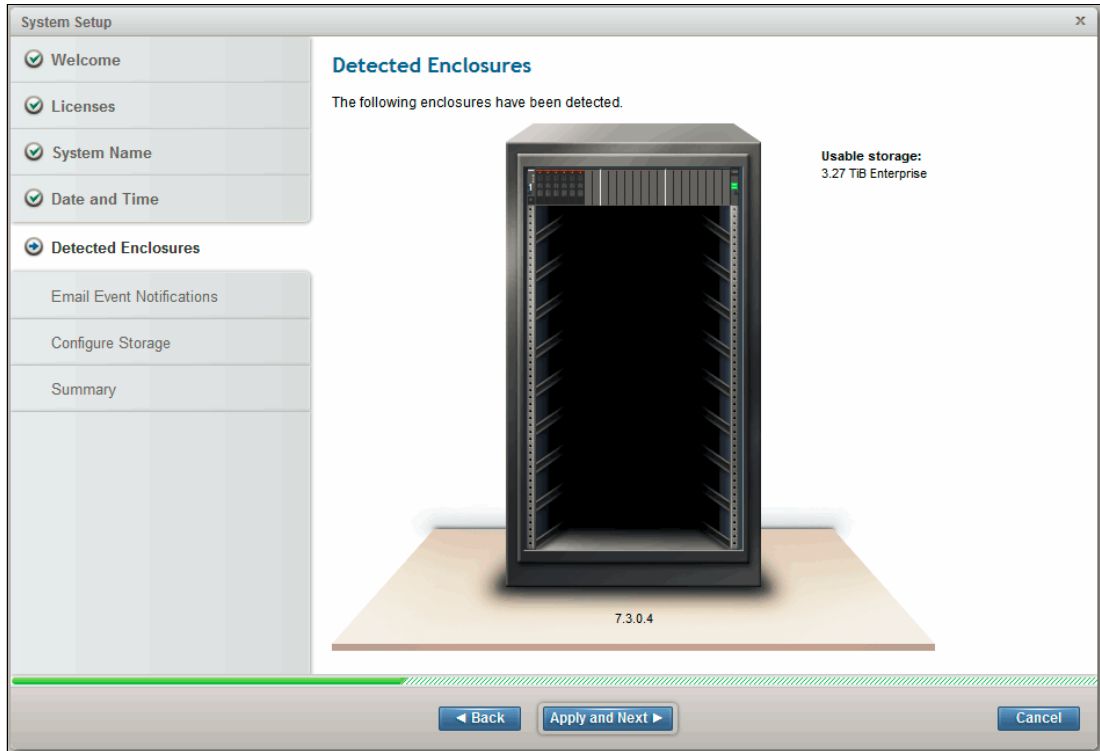

Figure 5-18 Detected enclosures
11. The next window shows the detected enclosures. In this case, we are only using the control enclosure, so that is what we see, as shown in Figure 5-18.